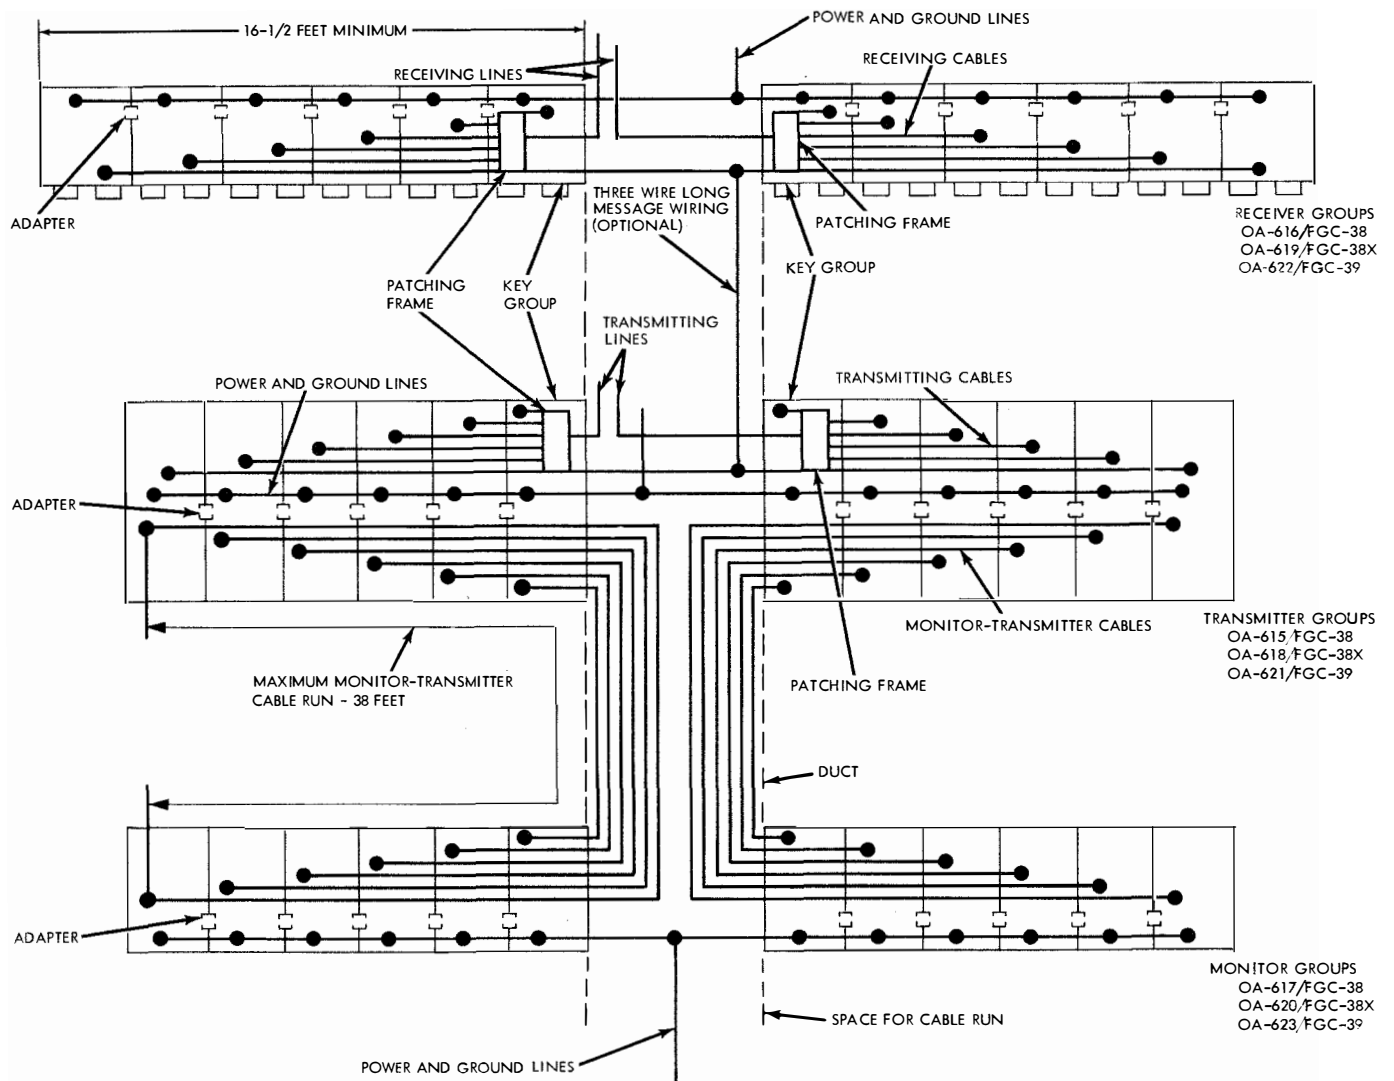
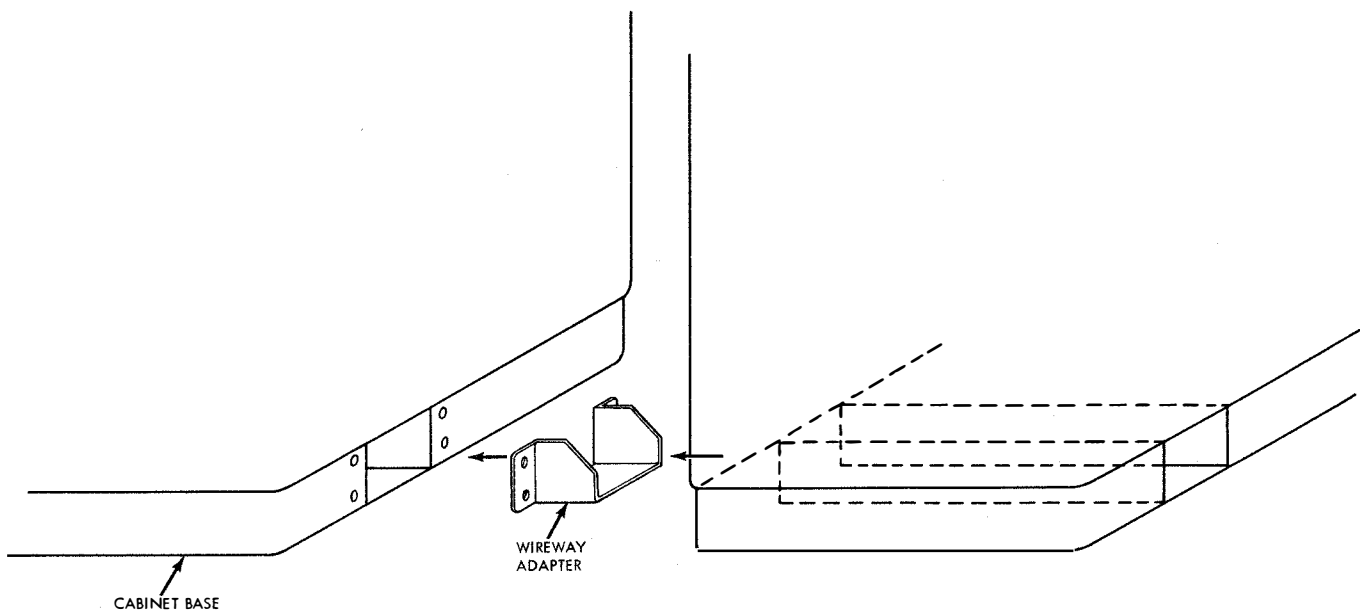

Figure 3-3. Teletypewriter Set AN/FGC-38, AN/FGC-38X, or AN/FGC-39, Office Layout Plan
Figure 3-5. Receiver, Monitor, and Transmitter Group, Wireways
Any receiver group or transmitter group may be converted into a KEY receiver group or KEY transmitter group by installing the jack strips and terminal boards on the interconnecting cables into the patching frame of the key receiver or key transmitter group of the installation group (see figure 3-3). The receiver, transmitter, and monitor groups may be arranged in three
b. CABINET INSTALLATION.—Before any actual mounting and assembly procedures are followed, determine the exact layout and position of each cabinet according to the instructions in the above paragraph and in figure 3-3. Make a floor plan of the office and indicate where all the groups and associated wiring are to be located. (See figure 3-3 for suggested layout.)
(1) Secure the receiver and monitor cabinets (Cabinet, Electrical Equipment CY-1523/FGC and CY-1522/FGC) to the floor through the two 1/2-inch holes in the horizontal duct (base) of the cabinets (see figure 3-4). Make suitable holes in the floor in accordance with the dimensions given in figure 3-4. Place the cabinets in position, remove the lower duct covers, the guide rails in the receiver cabinet, and the fixed bottom shelf in the monitor cabinet. Using 1/2-inch bolts (not furnished) with one-inch (outside diameter) washers, secure the cabinet to the floor through the holes in the cabinet base. Secure the wireway adapter, if needed, to one side of the cabinet (see figure 3-5).
the floor in the proper position in accordance with the floor plan and the transmitter cabinet base drawing (see figures 3-3 and 3-6). Secure the cabinet to the floor using one-inch (outside diameter) washers between the cabinet and the bolt. Secure the wireway adapter, if needed, to one side of the cabinet (see figure 3-5).
(2) SIGNAL LINE CONNECTIONS.—Determine which cabinets will be the key receiver and key transmitter groups (see figure 3-23). One key group is required for each group of not more than six receiver or transmitter groups. Refer to figure 3-3 for a suggested office layout of 12 sets.